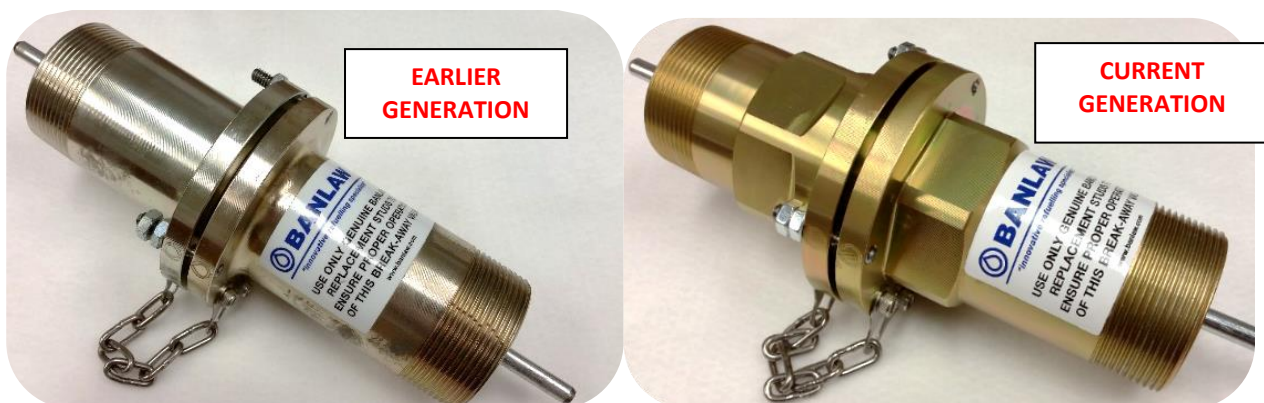
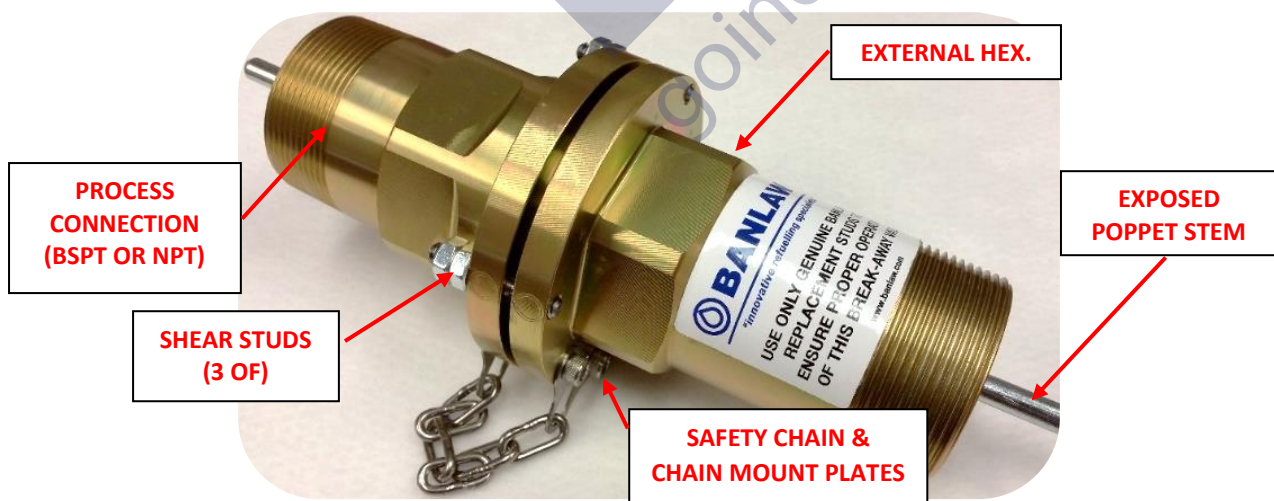

Figure 1 - Examples of Banlaw Break-Away Valves
Figure 3 - Key External Features of a Banlaw BAV
Figure 1 shows examples of Banlaw break-away valves (BAV's). The left image illustrates the earlier Banlaw BAV design, whilst the right image depicts the latest BAV design. Unless noted otherwise, information within this document applies to **both** styles (designs) of BAV.
A notable design change within the continuing evolution of Banlaw break-away valves – refer Figure 1 - includes the following new features;
- External (male) hex on each BAV body – refer Figure 3 – to assist in the installation and servicing of the BAV.
The key external features of the current Banlaw BAV are shown in Figure 3.
The key external features of a Banlaw **FuelTrack** BAV are also shown in Figure 3. The external (male) hex on each BAV body are not included on earlier FuelTrack BAV’s (refer Figure 1).